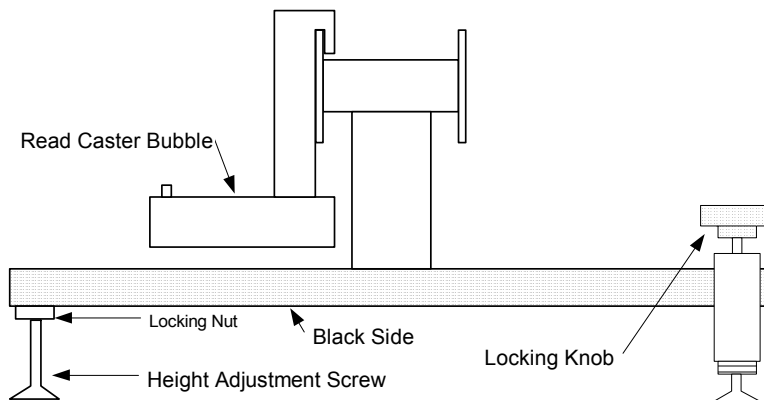

Figure 10
3. Reverse the bar on the ground so that the foot nearest the red side is now the black side. Place the gauge on the black side which is now on the left. Read the caster bubble and note the reading. (Fig. 10)